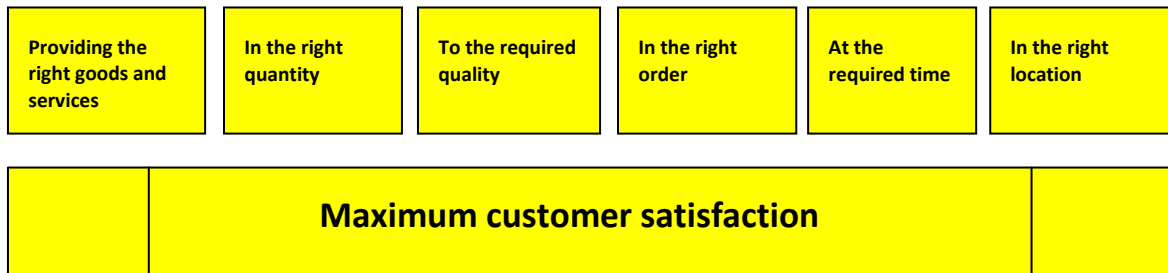

Fig. 1-1: Steps to achieving maximum customer satisfaction
- Fig. 1-1: Steps to achieving maximum customer satisfaction**